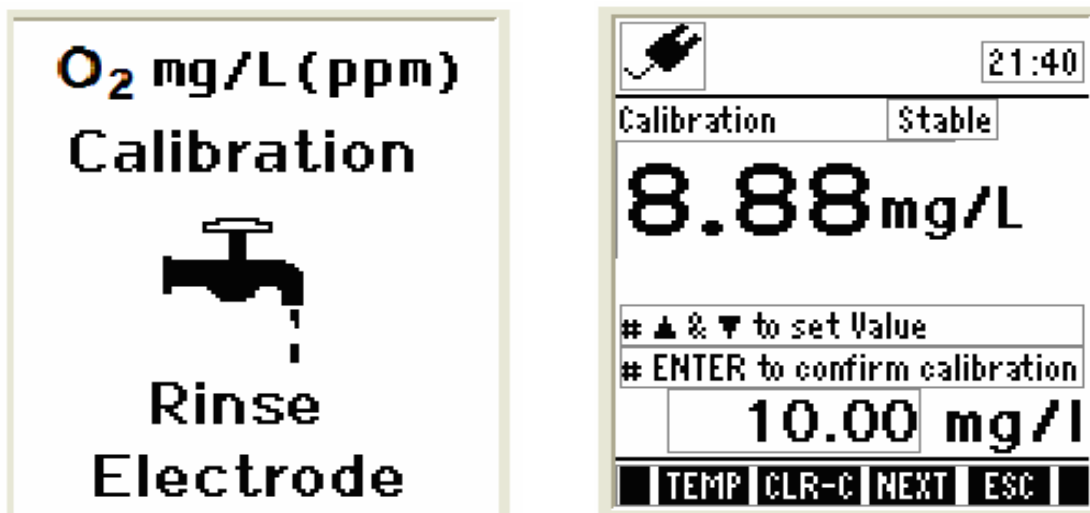

Figure 32 : Concentration calibration screens
5. The meter then shows the concentration calibration screen [Figure 32].
6. The upper display of the calibration screen [Figure 32] will show the current value of the measurement and the secondary display will show the value to which the meter is going to be calibrated. Press **▲** & **▼** keys to adjust the reading to the known oxygen concentration of the sample.